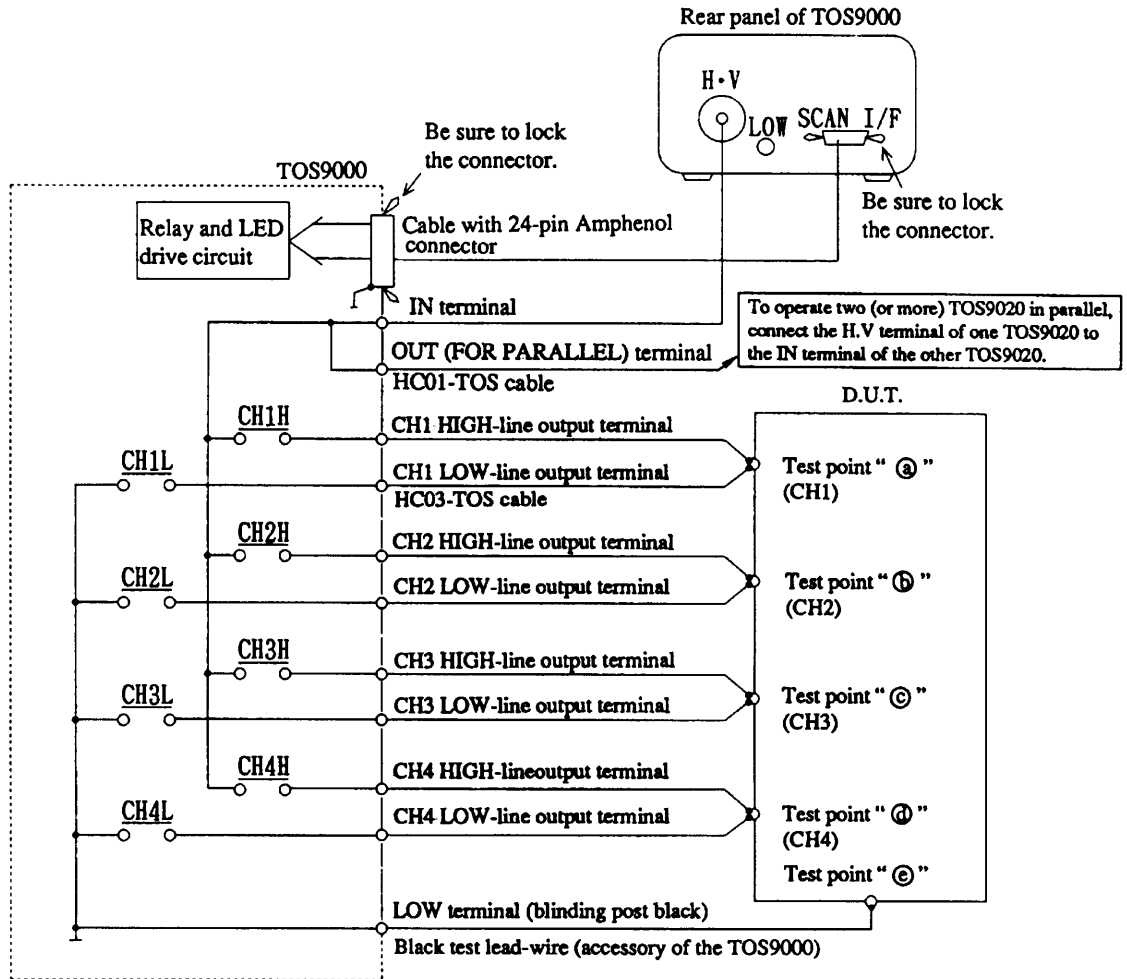

Figure 4.4
Assume that, referring to Figure 4.4, you execute a test between test point “(a)” (channel “1”) and test point “(b)” (channel “2”) by designating the former for the high voltage side and the latter for the lower side.
Note: When the TOS9020 is in the Single-scanning mode (see Page 4-8), contacting between the low voltage side (LOW terminal (6) in Figure 4.4) and the test point “(c)” cannot be checked.